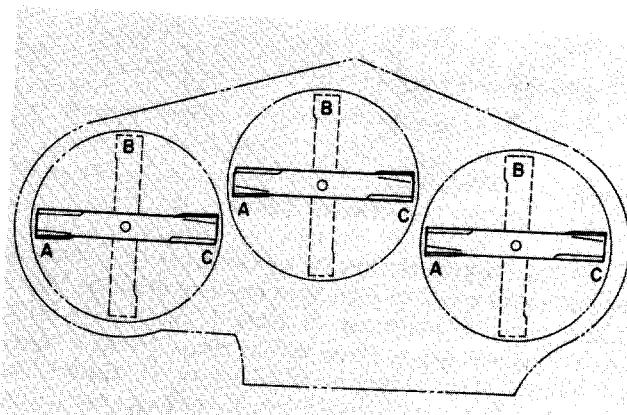
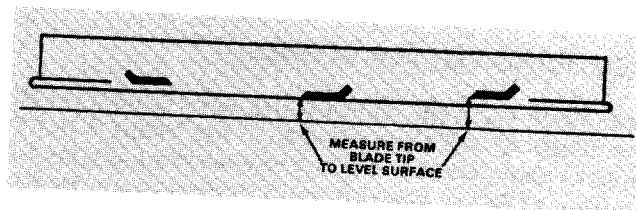
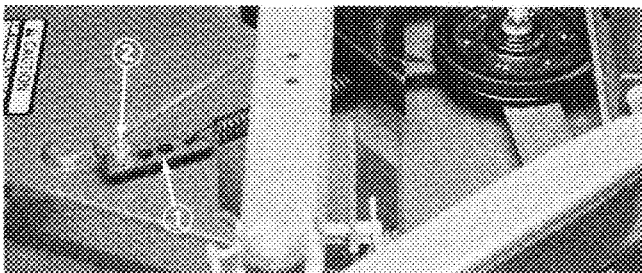

Figure 18
Figure 19
Figure 21
4. Position outside blades in the "A" position (Fig. 21) and measure from level surface to the bottom of the tip end of each blade (Fig. 19).
5. Note measurement attained at "A", rotate blades to "B" position (Fig. 18), measure distance of outside blades to level surface and note dimensions (Fig. 19).
6. Rotate blades to "C" position, measure and note distance measured (Fig. 18, 19).
- C. If cutting unit is operated at 2 to 4 in. (51 to 102 mm) height-of-cut, lower the high side of cutting unit. Remove lynch pin of castor at high end of unit and remove castor assembly (Fig. 18)
- D. Transfer one thrust washer from lower side of castor shaft to top side, install assembly and compare blade height of all blades; refer to items 3 through 7. Repeat procedure if height still does not meet requirements.
2. Remove nut securing spring anchor to capscrew in housing (Fig. 21). Lift anchor off capscrew and pull to increase belt tension. Correct belt tension is achieved when approximately 30-40 lbs. of force is applied to spring.
2. Remove nut securing spring anchor to capscrew in housing (Fig. 21). Lift anchor off capscrew and allow belt to relax.